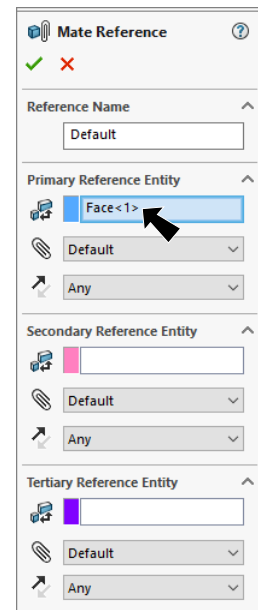

Fig. 6
Step 3. In the Mate Reference Property Manager click OK  , **Fig. 6**.